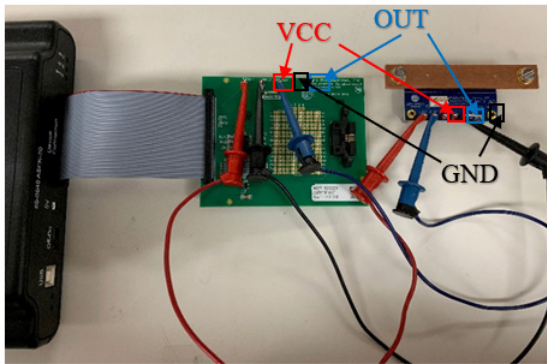
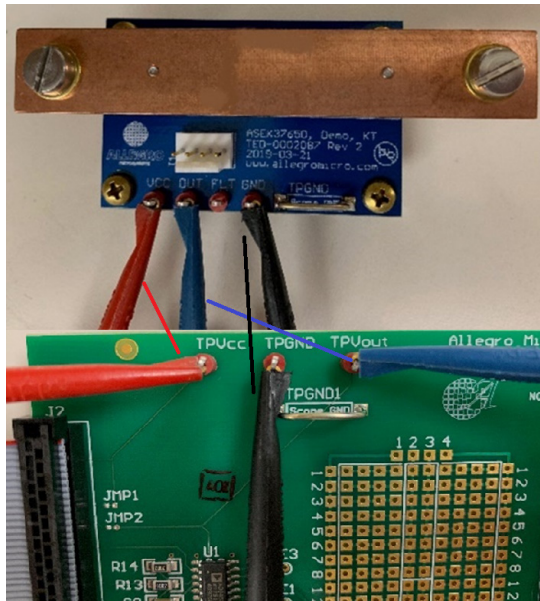

Figure 13: Connection between ACS37610 evaluation board and ASEK20 ACS37610 daughterboard
Figure 14: Closeup of VCC, OUT, and GND pin connections on the ACS37610 busbar evaluation board (top) to the ACS37610 daughterboard (bottom)
4. See Figure 13 and Figure 14 below showing the connection setup between the VCC, OUT, and GND pins of the ASEK-20 ACS37610 daughterboard and the ASEK37610 evaluation board.